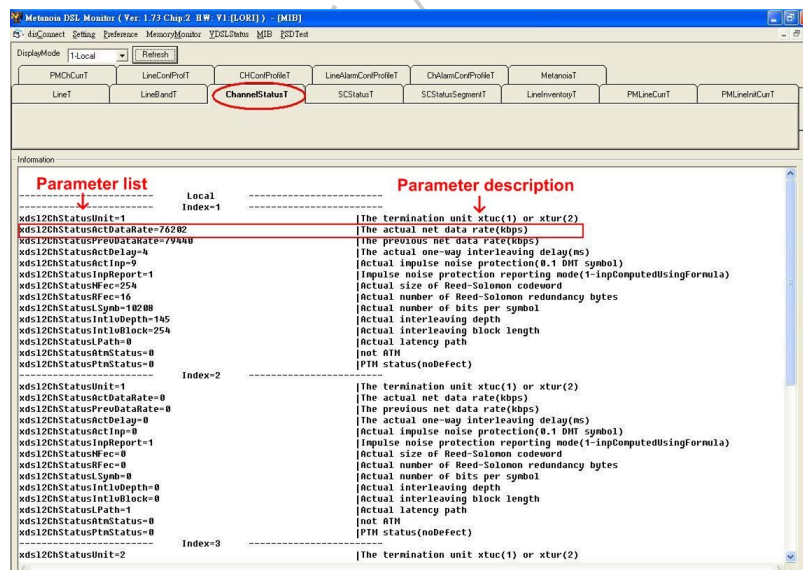

Figure 2.3: The window where MIB parameters are monitored discrete.
1. Please click the “MIB” in the top menu, and the window should look as in figure 2.3.